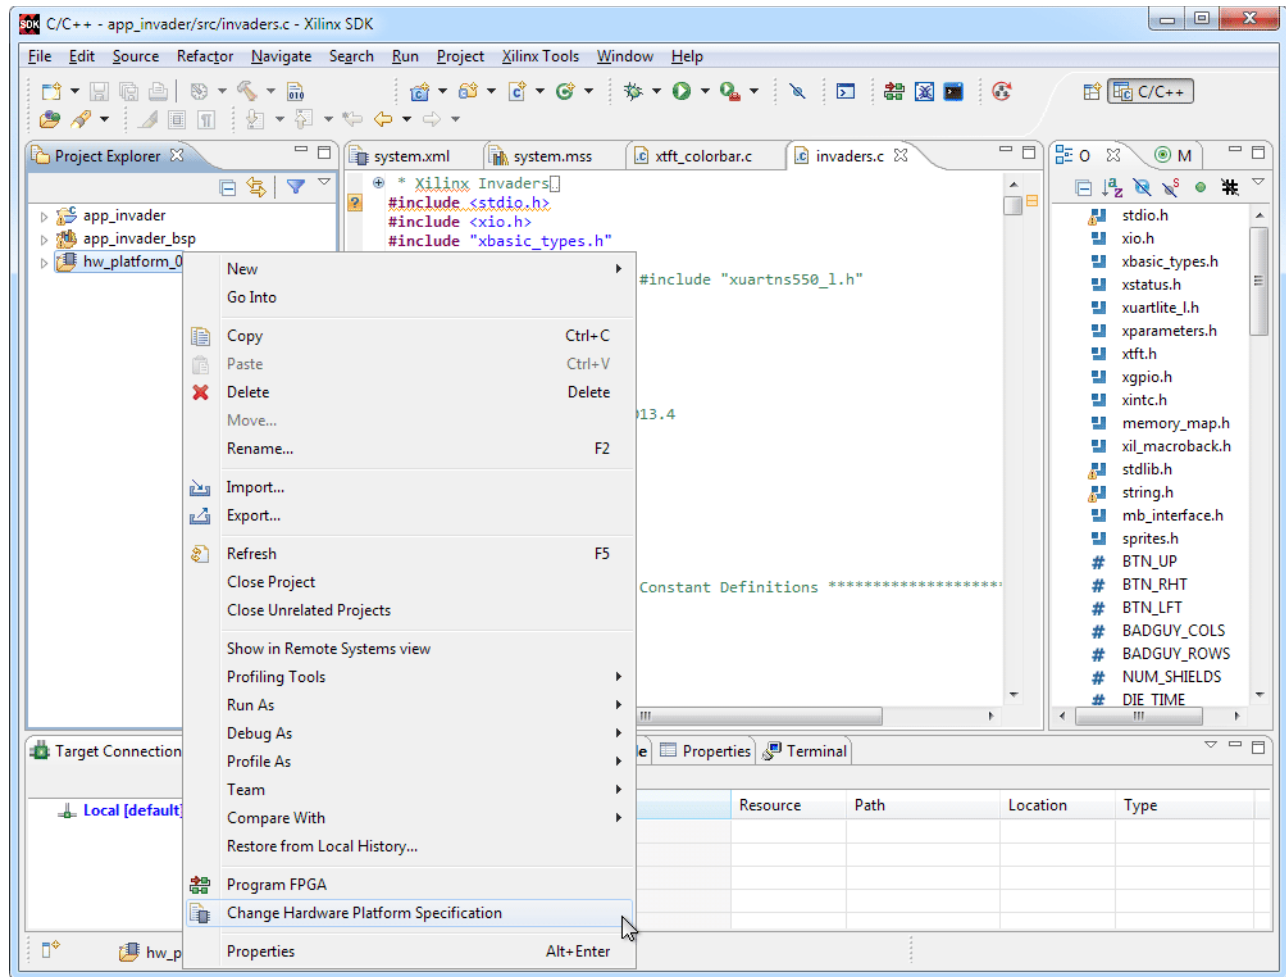

Figure 8: Change Hardware Platform Specification
5. Right-click `hw_platform_0` and select **Change Hardware Platform Specification** (Figure 8).